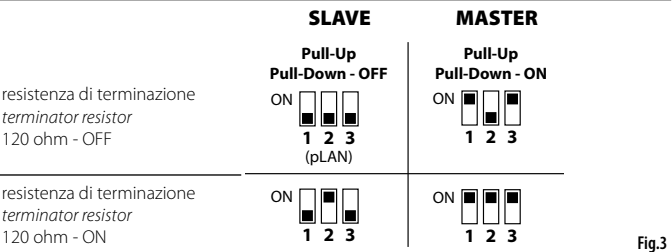

Fig.3
Porte Seriali, COM1 (2), COM2	RS485 max 115,2 Kb/s Connettore sconnettibile a vite passo 3,81mm Cavo schermato AWG 20-22 a coppie ritorte per ± Lmax = 500m - coppia serraggio 0,25Nm (2.2lbf x in) Master/Slave configurabile tramite dip switch (Fig.3)
COM1 (2), COM2 Serial ports	RS485 max 115,2 Kb/s Removable screw connector 3,81mm pitch Shielded twisted pair cable AWG 20-22 for ± Lmax = 500m - tightening torque 0.25Nm (2.2lbf x in) Master/Slave set via dipswitch (Fig.3)